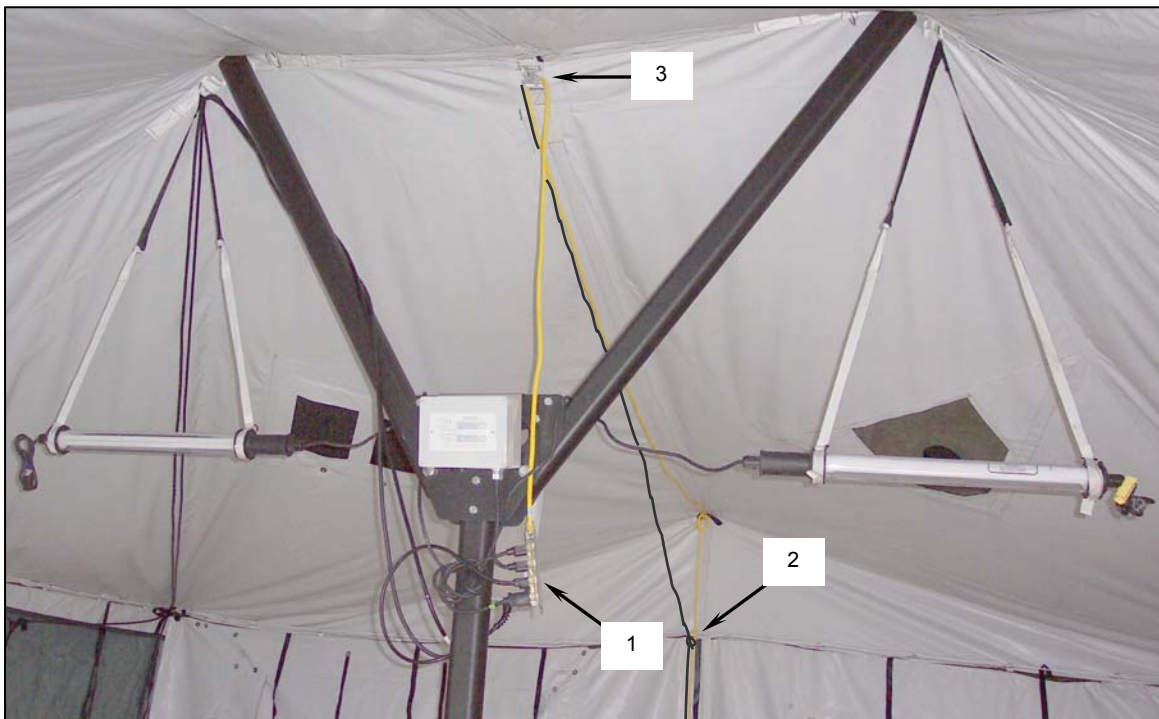

Figure 36. Extension Cord Removal.
- j. Unplug the power converter cable, the two electric light cords, and the carbon monoxide (CO) monitor power cord from outlet end of the 100-ft extension cord (**Figure 36, Item 1**).
- k. Untie the 100-ft extension cord from the tent strap (**Figure 36, Item 2**) and slide the cord out of the strap buckles (**Figure 36, Item 3**) at the top of the tent.